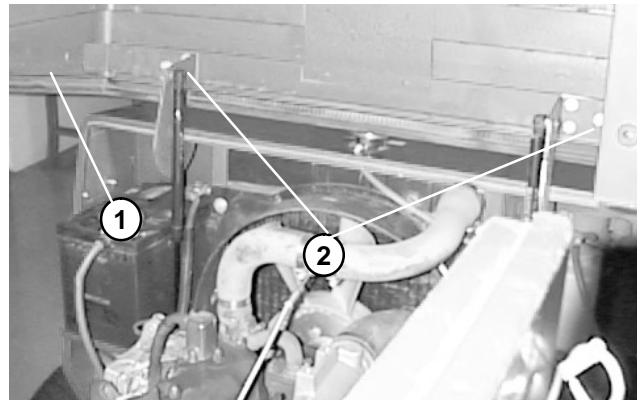

Figure 19
2. Pivot seat up. Lift front canopy and remove from the brackets (Fig. 19).